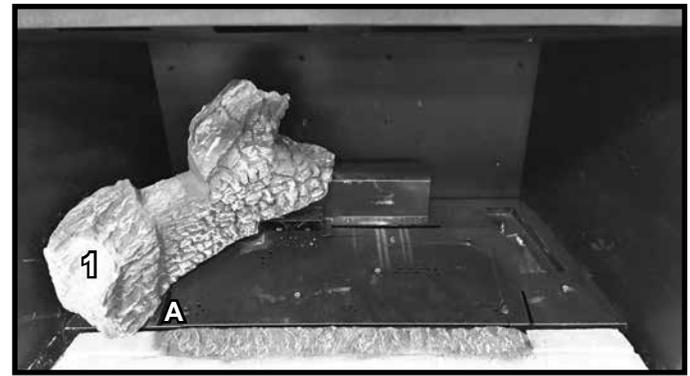

Figure 12 Log #1 Installed
**LOG #1:** Locate the cutout on the end of log 1 and place over the pilot hood and air scoop. The other end of Log #1 will sit against log pin A. See Figure 12.